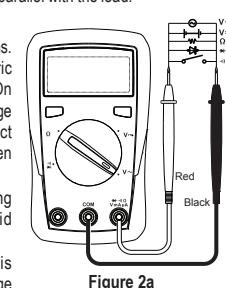

Figure 2a
1. AC/DC Voltage Measurement (see Figure 2a)
2. Resistance Measurement (see Figure 2a)